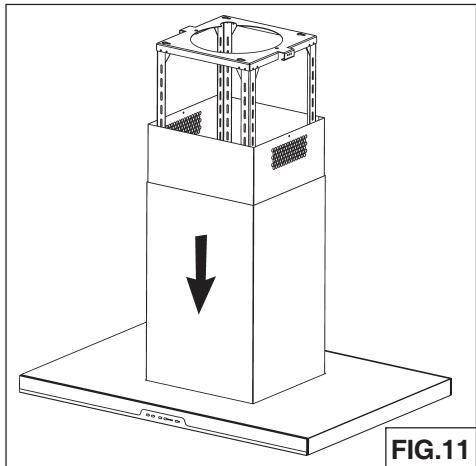

FIG.11
1. Insert the upper flue and lower flue in the support frame (Fig.11).